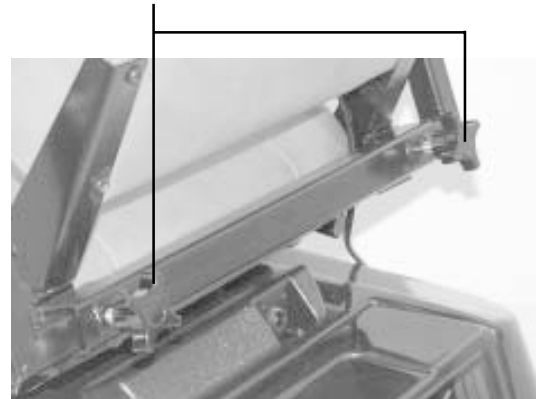

Figure 14. Armrest Width
1. Locate the two knobs on the armrest receiver bracket. See figure 14.